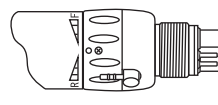

Fig. 5
(3) When the FWD/REV Change Ring is positioned in the middle of "F" and "R", the drive air is interrupted and the motor does not rotate. (Fig.5)